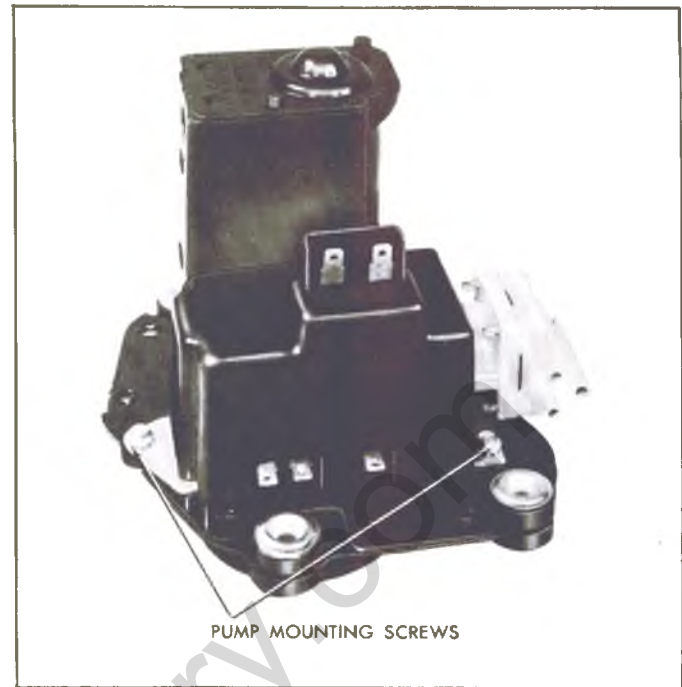

Fig. 43--Washer Pump Attaching Screws
2. Remove washer pump drive cam as required (figs. 43 and 44). The cam is pressed on the shaft but can be wedged off by using two screwdrivers between cam and plate.
The positive displacement washer pump used on the two-speed non-depressed park wipers (fig. 43) use a pump mechanism consisting of a piston, piston spring and valve arrangement driven by a (4) lobe cam, and follower assembly (fig. 45). The cam is attached to one shaft of the wiper motor output gear (fig. 44). Programming is accomplished electrically and mechanically by a relay assembly and ratchet wheel arrangement.
2. Remove two (2) pump mounting bolts.
**CAUTION:** Install washer multiplug harness connector with battery lead on terminal with no tang (fig. 43). Incorrect installation of connector will result in direct ground and destroy wiper motor fuse.